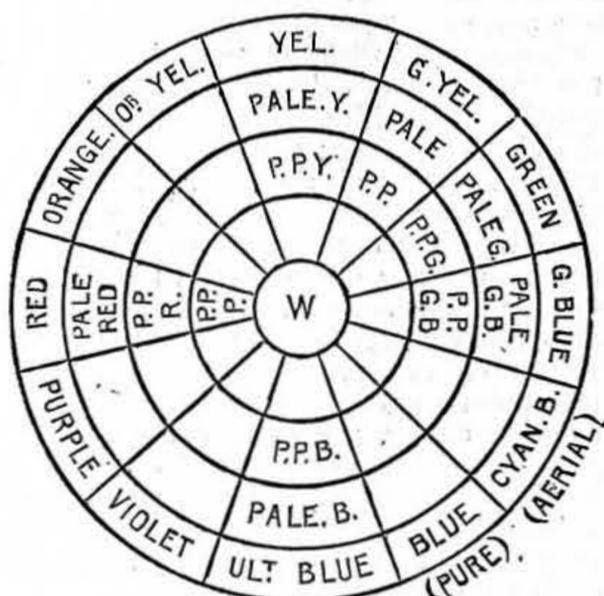
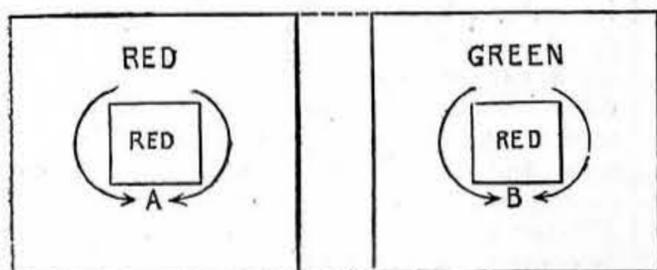

Fig. 1.—Contrasting Colours opposed in Sectors, with Corresponding Tints by addition of White. After O. N. Rood.
Fig. 4.—Pieces of Red and Green Paper with Red Squares placed thereon. Result—B appears brighter than A.
* * Figs. 1, 2, 3, showing Complementaries, and Figs. 4—8 for Experiments with Contrast Effects, should be reproduced with properly Coloured Surfaces three or four times larger.